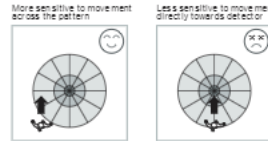

FIG. 3
- 3.1.2 Pay attention to the walking direction during the test. SAE-UE-MS-CSAW6 is more sensitive to movement across the detector and less sensitive to movement directly towards to detector which will reduce the detection coverage (See FIG. 3).